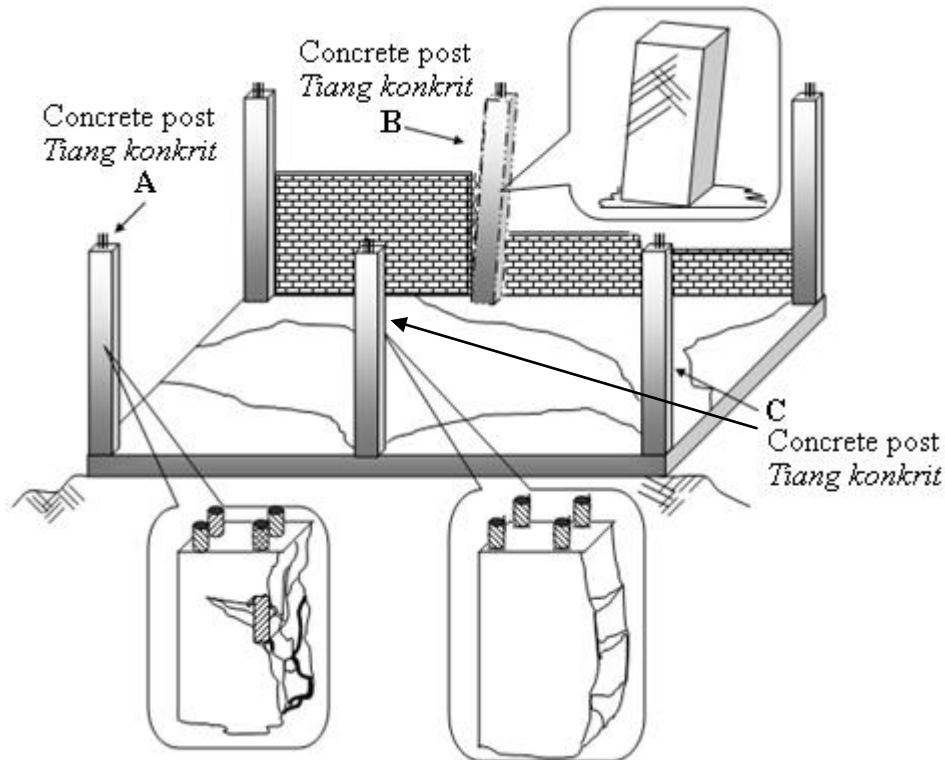

Figure 5
5. Figure 5 shows the construction of six reinforcement concrete columns. When the formworks are removed, the deflection occurred in three columns as shown in parts A, B and C.